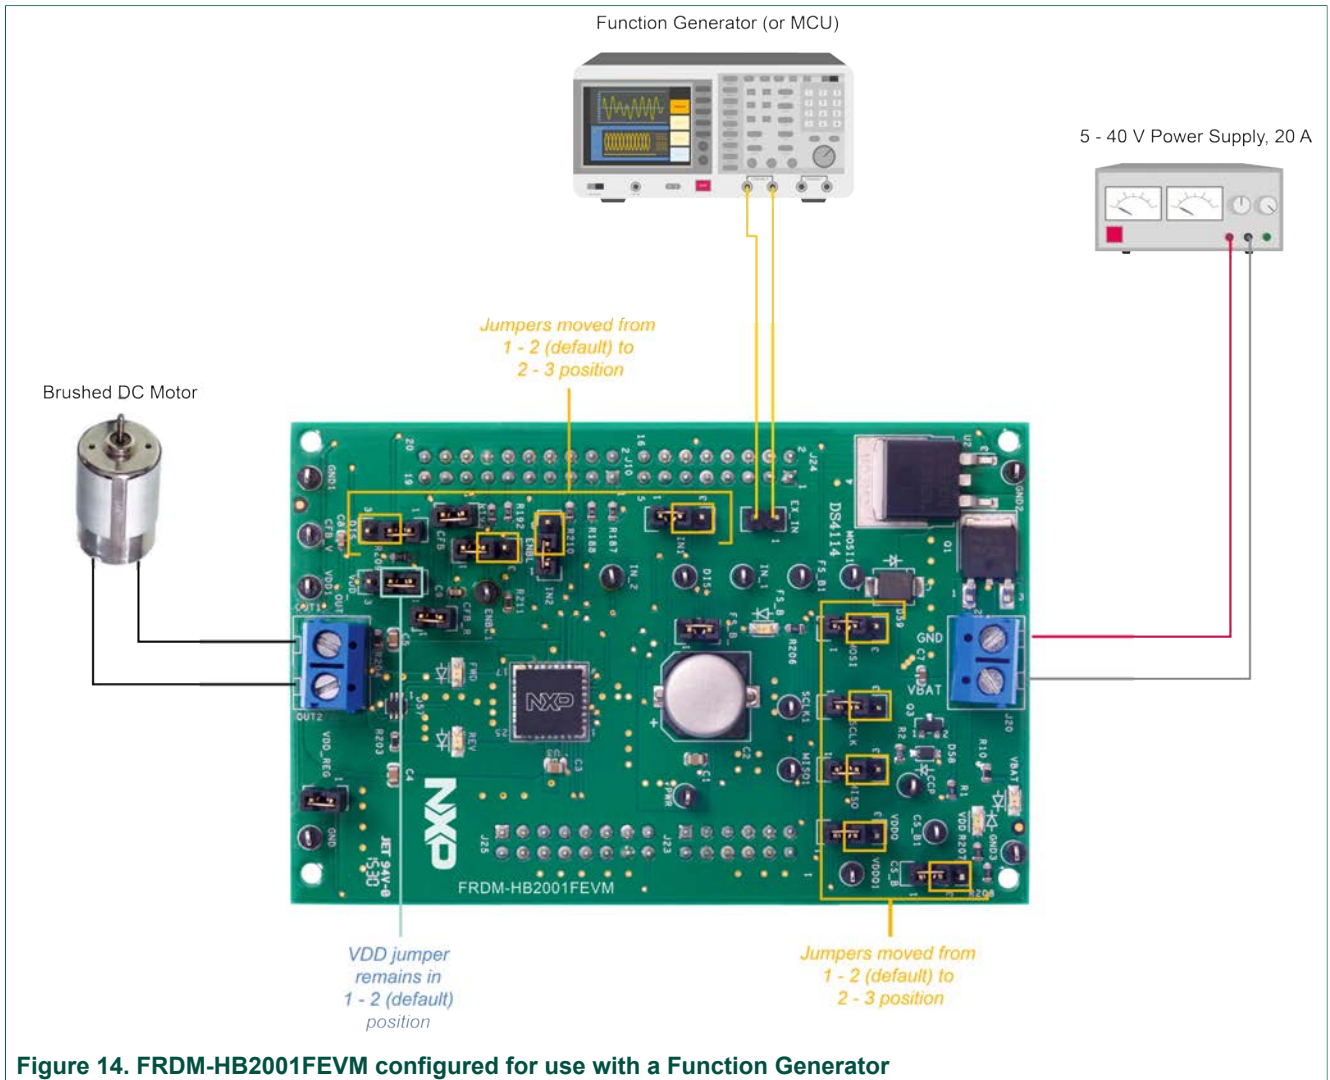

Figure 14. FRDM-HB2001FEVM configured for use with a Function Generator
2. Change the board jumper connections, as shown in Figure 14.
Figure 14 illustrates the hardware configuration.